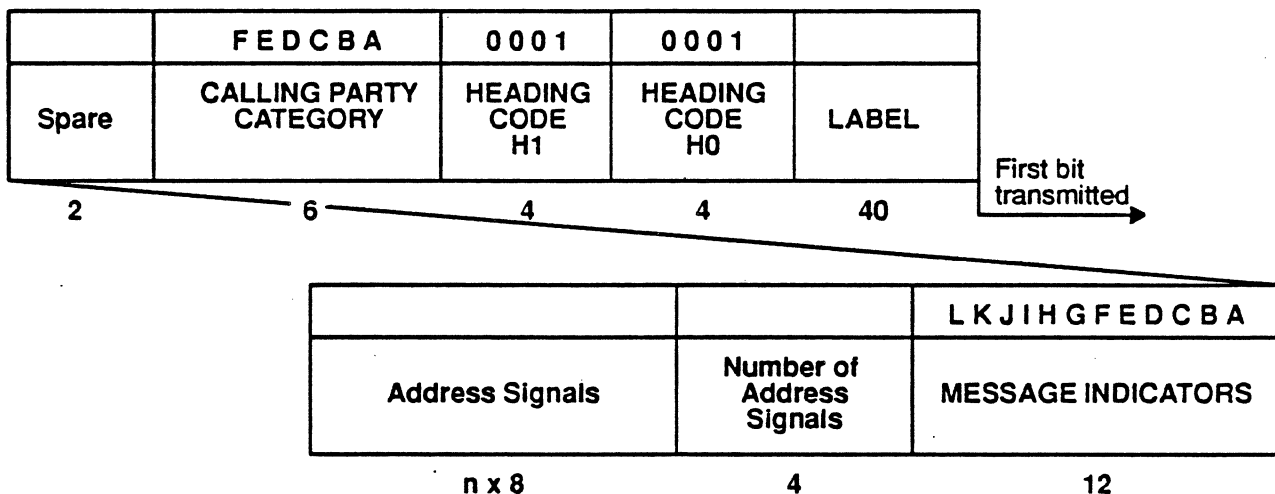

Figure 8.10: TUP Initial Address Message (IAM) Format
In addition, when you trigger on Telephone User Part (TUP), you have the option of triggering on specific elements of Initial Address Messages (IAM). This feature is provided because of the relative importance of IAMs. Figure 8.10 illustrates the format of an IAM so that you can relate the SS#7 triggering options to the IAM components.
**Msg Ind** (Message Indicator). This option enables you to trigger on message-indicator bit settings A – L (refer to Figure 8.10). The following options are available: